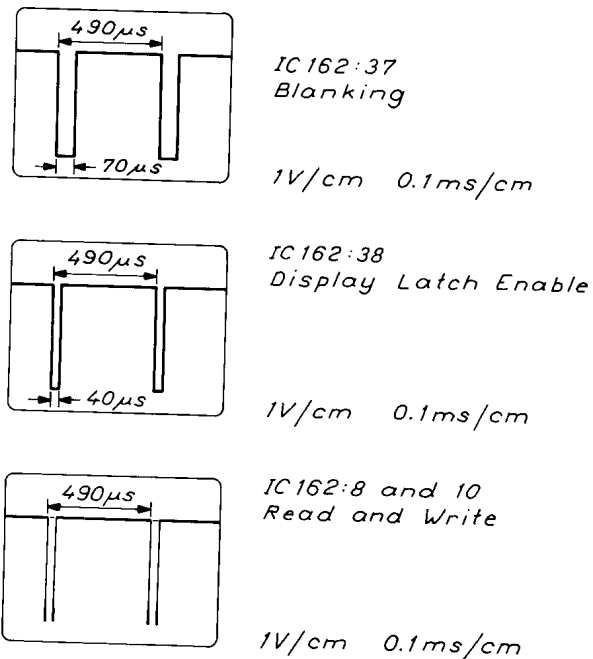
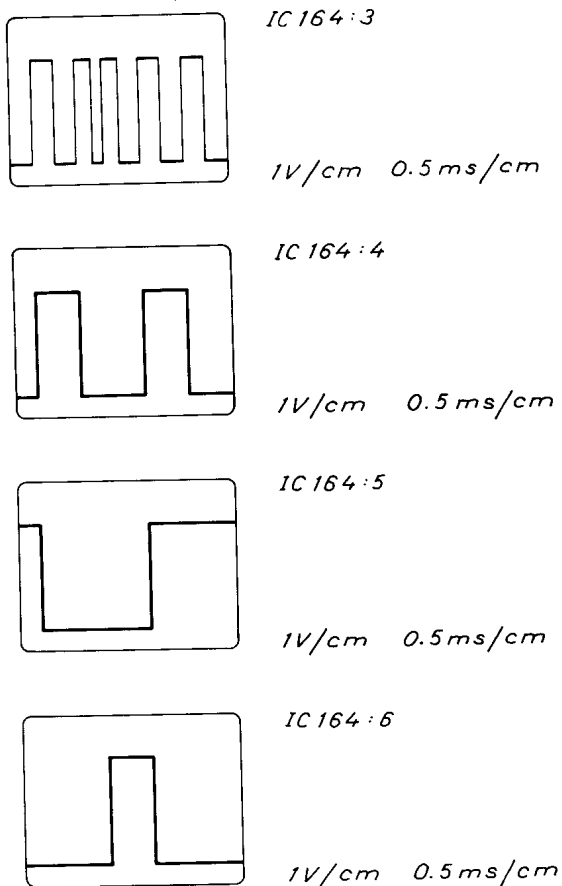

Fig. 5.1 If ALE is correct, check these signals.
Fig. 5.2 Signals to check on IC164.
- If a correct ALE signal is present at pin 11 of the microcomputer, check the signals as illustrated in Fig. 5.1. It is difficult to get a steady display on an oscilloscope, so these figures are only a schematic illustration of the display.
Notes to Fig. 5.1:
If the microcomputer signals are correct as illustrated in Fig 5.1, continue with checking IC164, see Fig. 5.2.